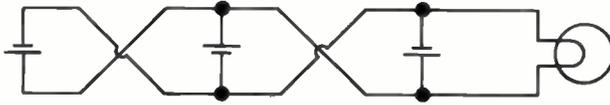

Fig. 11
1. 2 2. (2) . . . Batteries of *unlike* voltage should *never* be connected in parallel.
4. See Fig. 11. 5. (d) 6. (a)